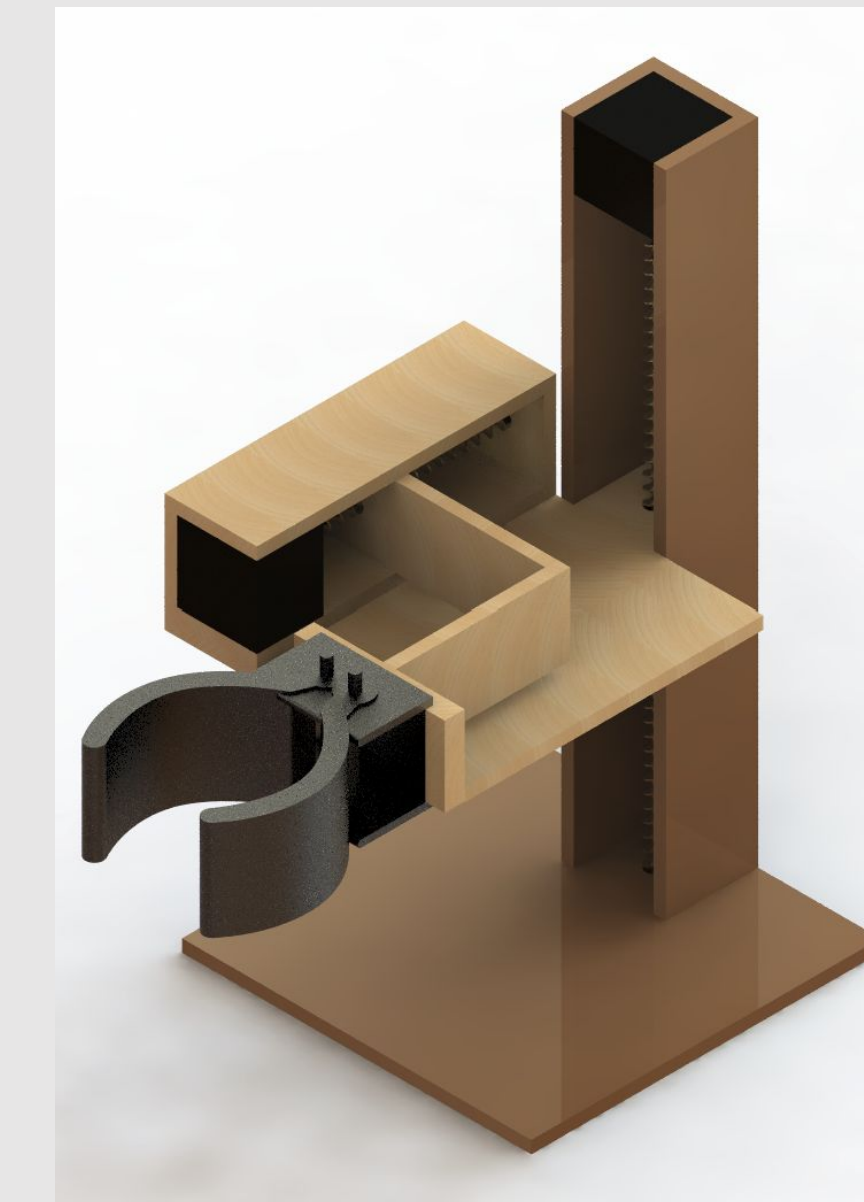

Figure 7: Final Prototype
- Final prototype shown in Figure 7